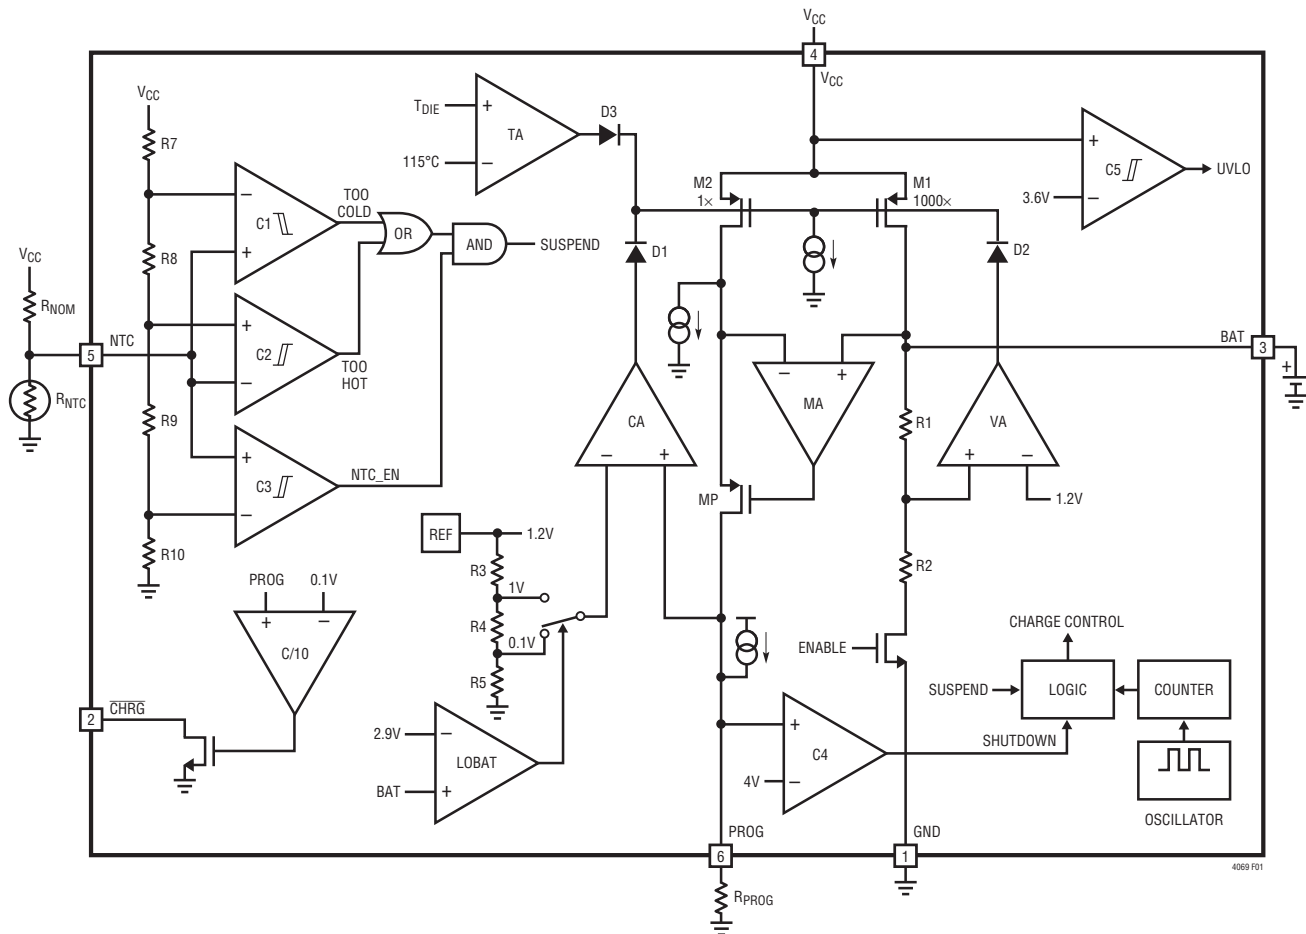

Figure 1. LTC4069-4.4 Block Diagram
The LTC4069-4.4 uses a unique architecture to charge a battery in a constant-current, constant-voltage and constant-temperature fashion. Figure 1 shows a Simplified Block Diagram of the LTC4069-4.4. Three of the amplifier feedback loops shown control the constant-current (CA), constant-voltage (VA), and constant-temperature (TA) modes. A fourth amplifier feedback loop (MA) is used to increase the output impedance of the current source pair, M1 and M2 (note that M1 is the internal P-channel power MOSFET). It ensures that the drain current of M1 is exactly 1000 times greater than the drain current of M2.